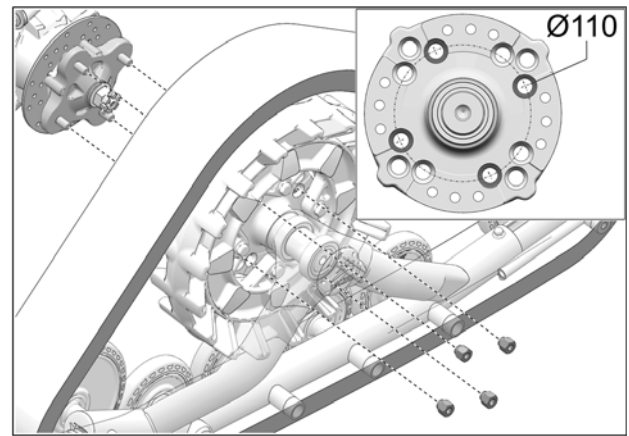

Fig. 6
- Secure undercarriage to rear hub using the vehicle's own lug nuts. Use bolt circle $\text{Ø}110 \text{ mm}$. See Fig. 6